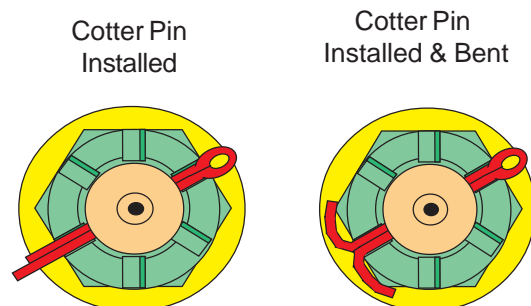

FIGURE 11
- Install cotter pin (item 3), Push Cotter Pin into hole until the head (loop in cotter pin) is no higher than the washer (figure 11). Bend the cotter pin outward (figure 11), it may require the ends of the cotter pin to be cut, if so use a pair of diagonal cutters. DO NOT Cut cotter pin so short the ends can not be bent over (figure 11). Make certain the cotter pin doesn't stick outward so far that it rubs the dust cap that is to be installed.